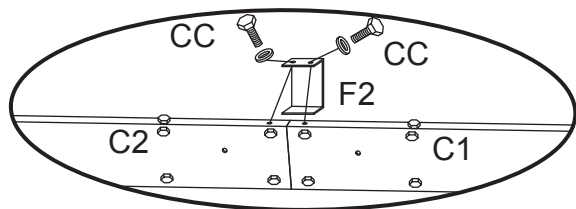

Fig 5.4
- 3.1 Connect the Right Long Lintel (C2) and the Left Long Lintel (C1) with the Connector (D) and Bolt (AA), with Bolt (CC) at the top of the lintel, fix the Lintel Cover (F2) at the same time, as seen in Fig 5.1-Fig 5.4;